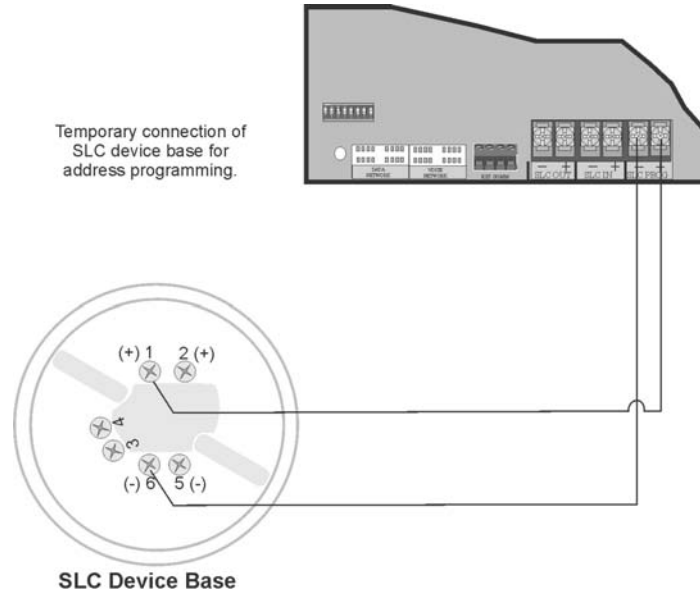

Figure 7-6 Temporary Connection of Detector Base to Panel for Addressing
1. Connect a detector base temporarily to the programming terminals as shown in Figure 7-6. (You can use the same base for each detector.)